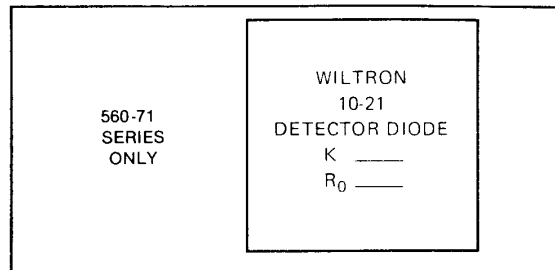

Figure 7-27. Label from Replacement Module Container
- e. Obtain "K" value from label (Figure 7-27) on replacement module's plastic container.